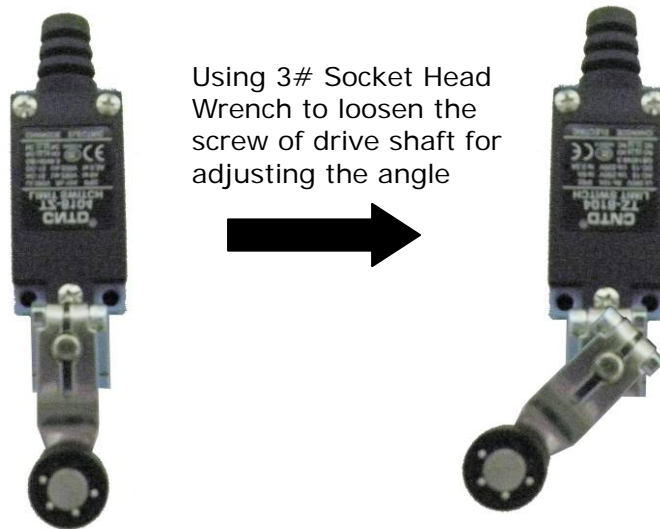

Fig. 31
1. Adjust the angle of drive shaft of limit switch on the powerside column (See Fig. 31).